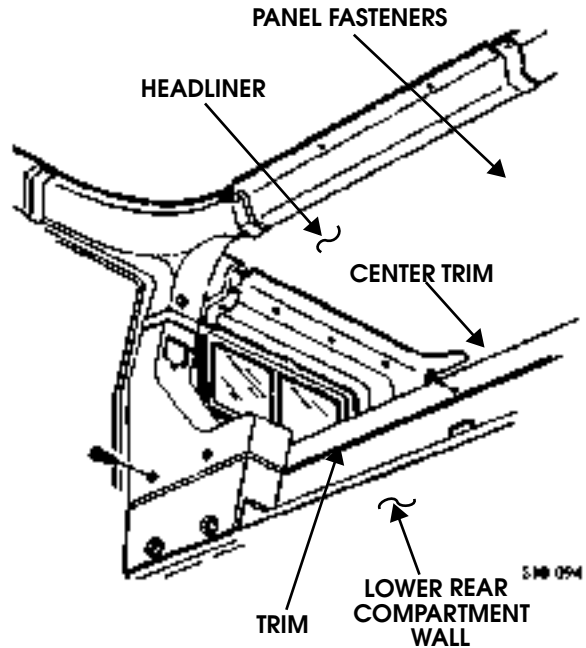

Figure 10-48: Headliner and Trim Removal
8. Remove screw/washer assemblies and two trim panels from lower rear compartment wall (Figure 10-48).
2. Secure rear headliner to roof with panel fasteners (Figure 10-48).